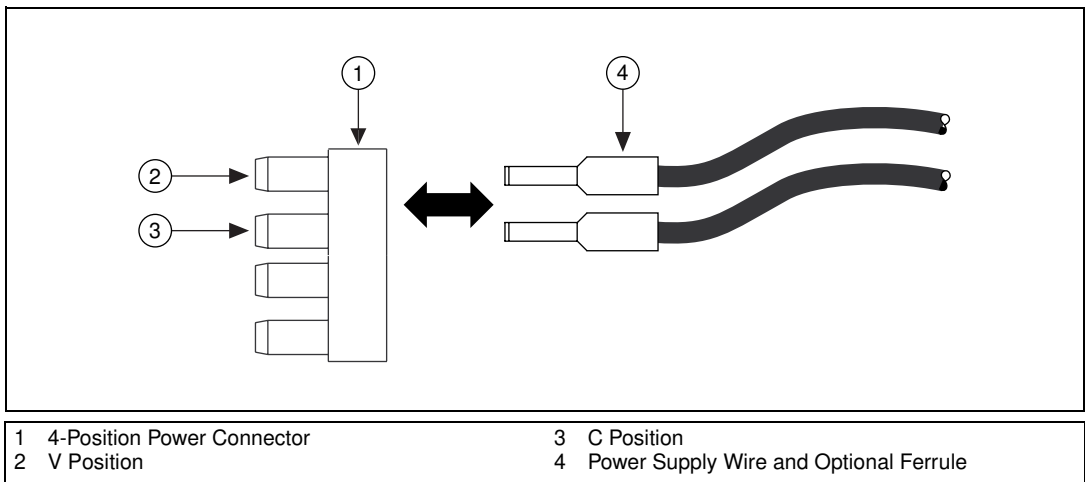

Figure 2. Removing the 4-Position Power Connector from the Power Supply
To connect power for the isolated outputs to the NI 8254R, refer to Figures 2 through 6 while completing the following steps:
1. If you are using the NI desktop power supply, remove the 4-position power connector connected to the power supply, shown in Figure 2.